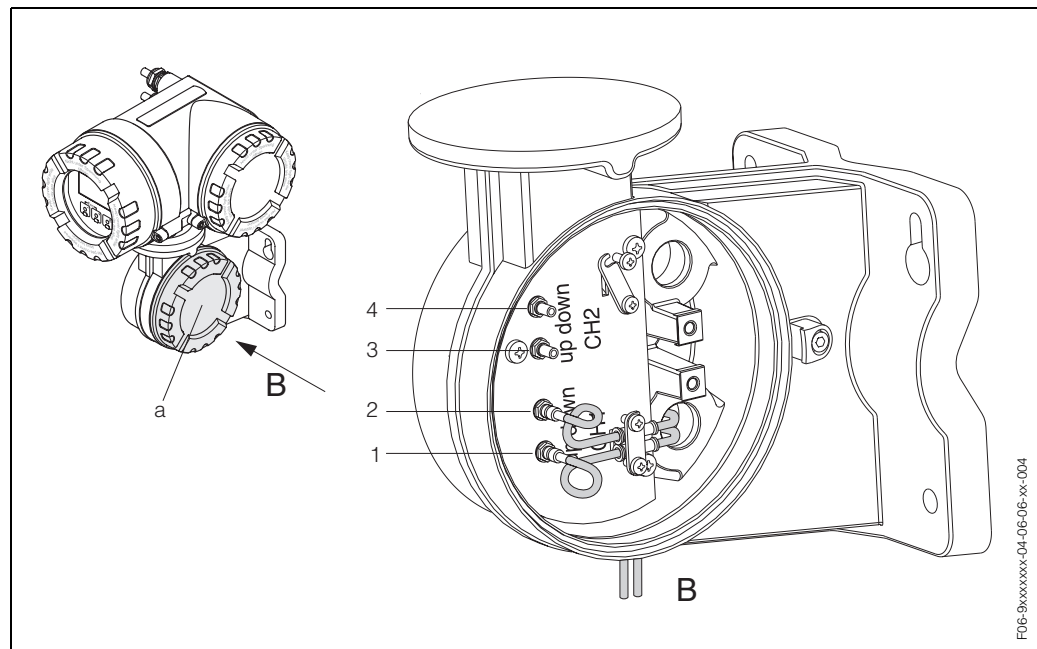

Fig. 4: Connecting the two possible measuring systems (one or two-channel)
1. Transmitter: remove cover (a, Fig. 4) from the connection compartment.